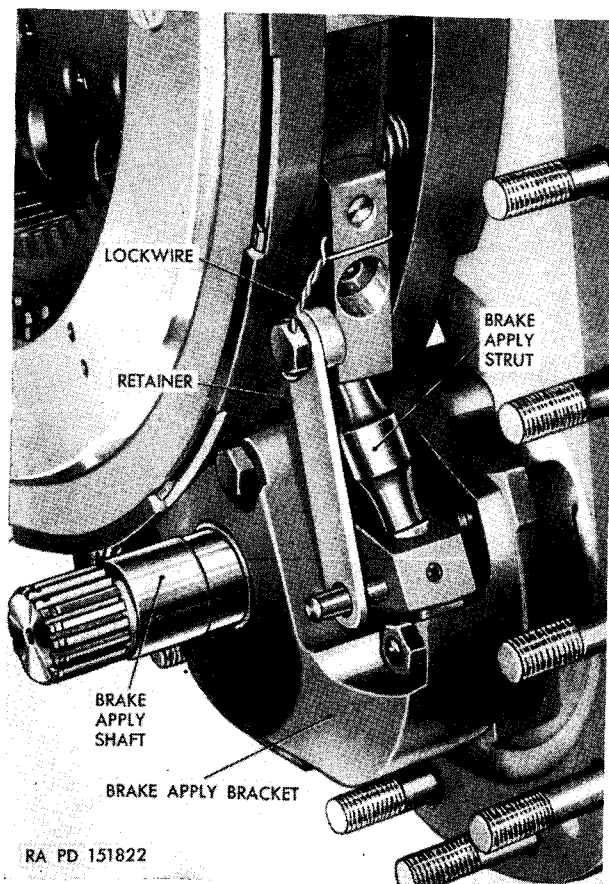

Figure 83. Brake apply mechanism assembly.
- (4) Break the locking wire on the brake-apply-strut-retainer bolt (fig. 83). Remove the retainer bolt, wave washer, retainer and spacer, using a $\frac{5}{16}$ -inch wrench.